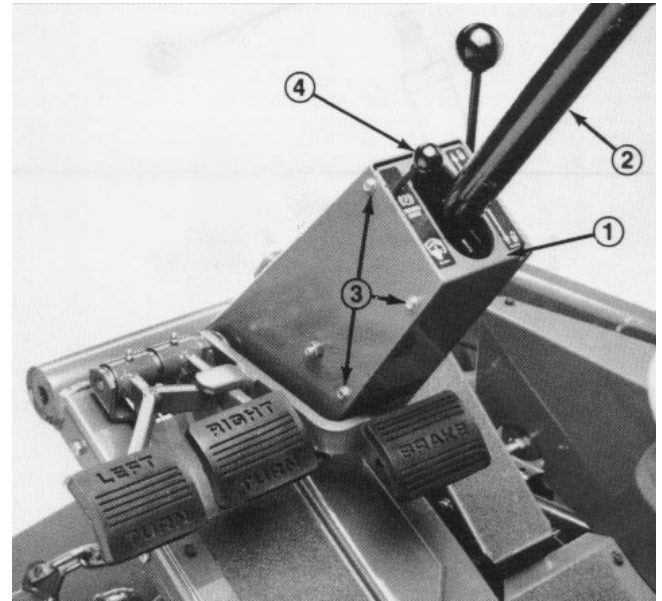

Figure 23A
4. Remove the six (6) self-tapping screws securing the steering tower cover (Fig. 23A). Slide the steering tower cover off of steering column and parking brake rod.